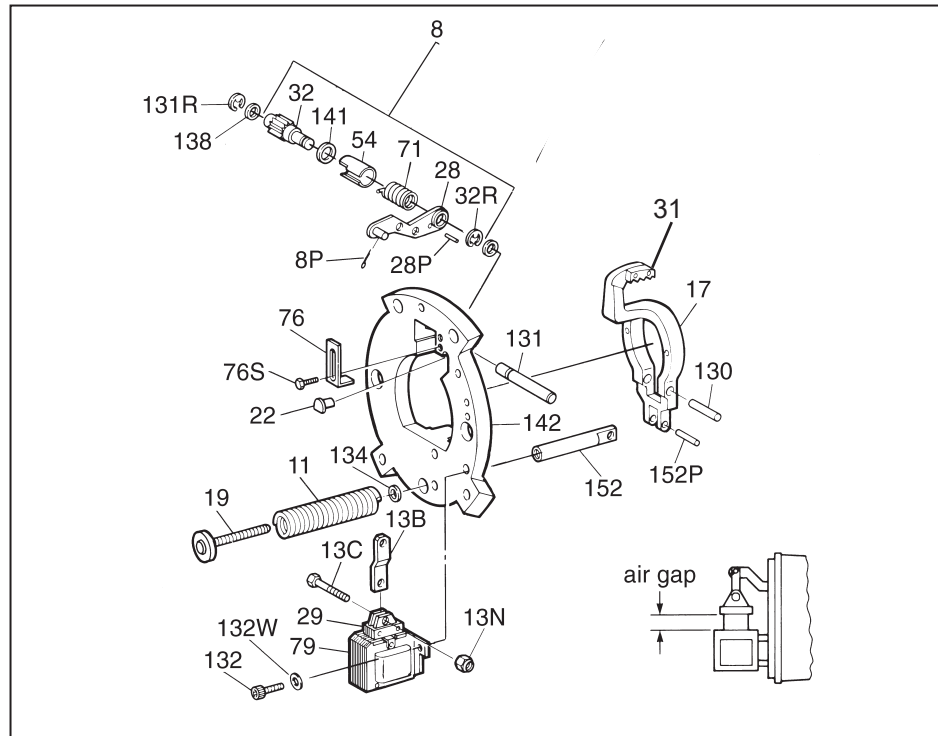

Figure 6
D. Self-adjust maintenance (see Figure 6).